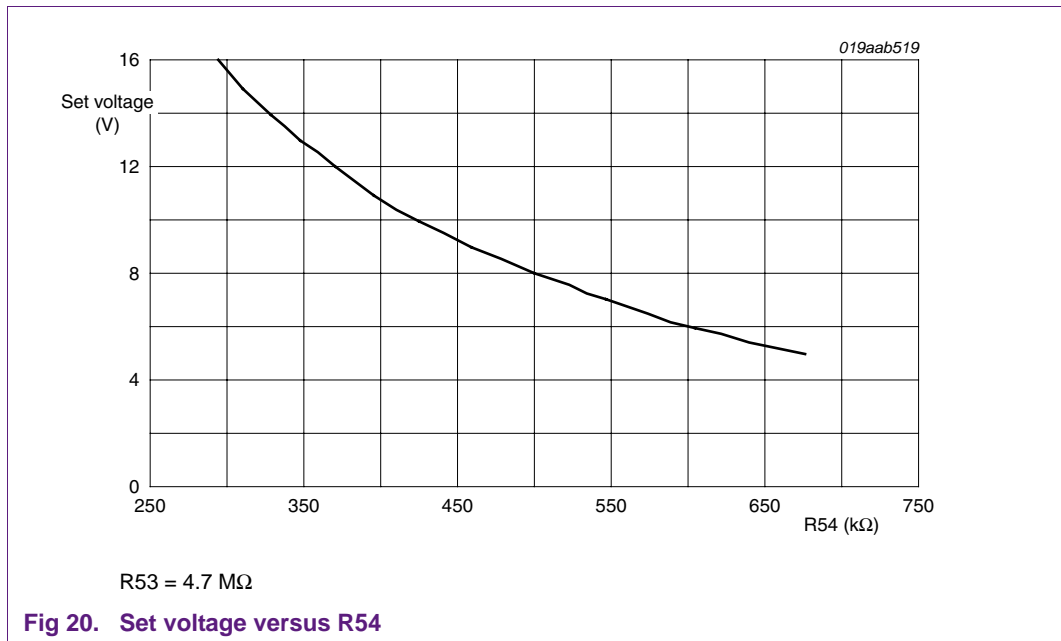

Fig 20. Set voltage versus R54
- Resistor $R54 = 1.22 / (((V_{min} - 1.22) / R53) + 1e^{-6})$. Alternatively the value for R54 can be found in Figure 20. The curve is valid for $R53 = 4.7\text{ M}\Omega$